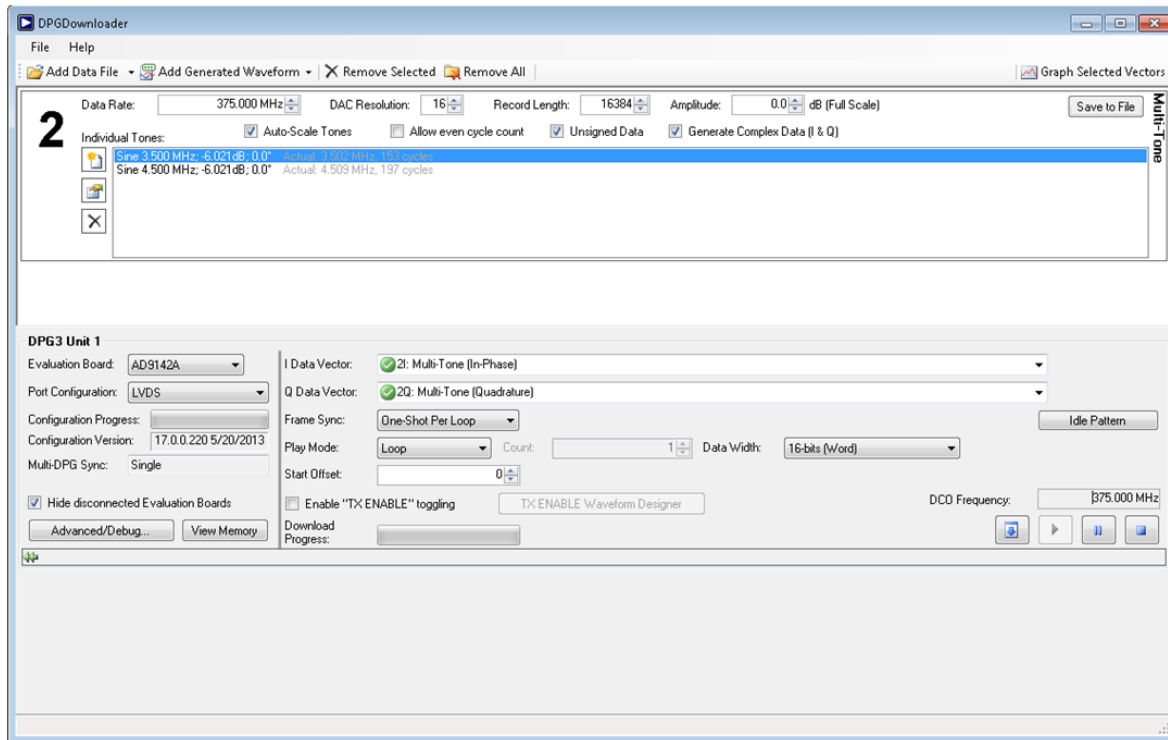

Figure 20. Setting Up the DPG Using the DPG Downloader Software
8. Set up the DPG, as shown in Figure 20, and run. See the AD9142A Evaluation Board Quick Start Guide.